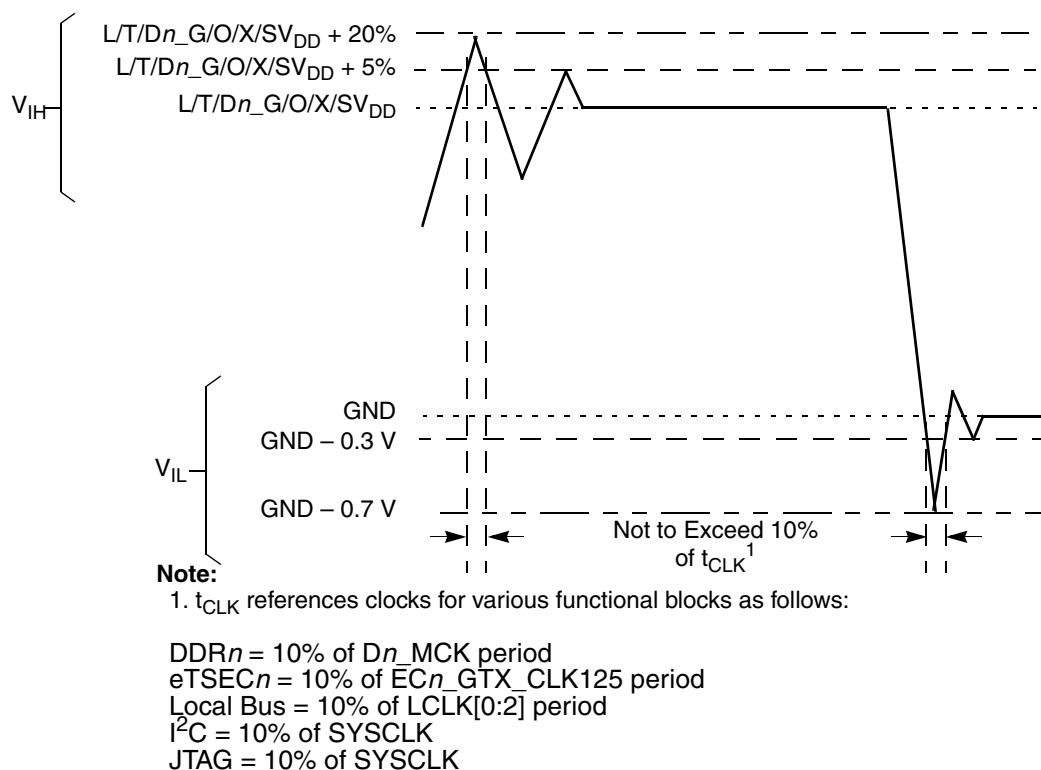

Figure 2. Overshoot/Undershoot Voltage for Dn_M/O/L/TV_IN
- During run time (M,L,T,O) V_{IN} and Dn_MV_{REF} may overshoot/undershoot to a voltage and for a maximum duration as shown in Figure 2.
Figure 2 shows the undershoot and overshoot voltages at the interfaces of the MPC8641.